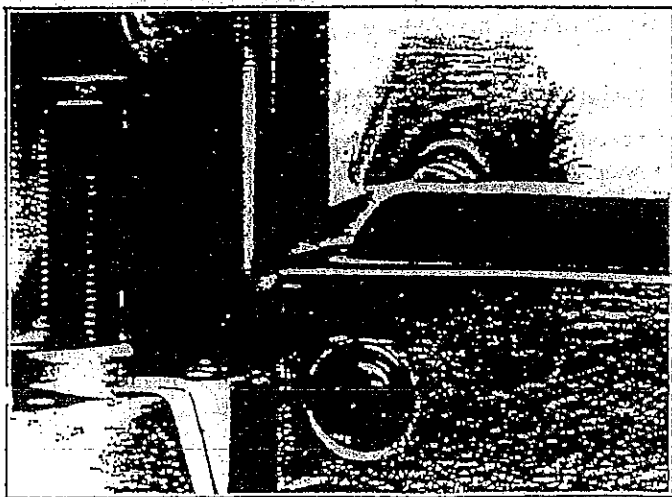

Figure 5
3. Turn the belt cover located at the left side of the motor, and rotate the cutter block until it is locked automatically by rotating the belt behind the belt cover (Figure 5).